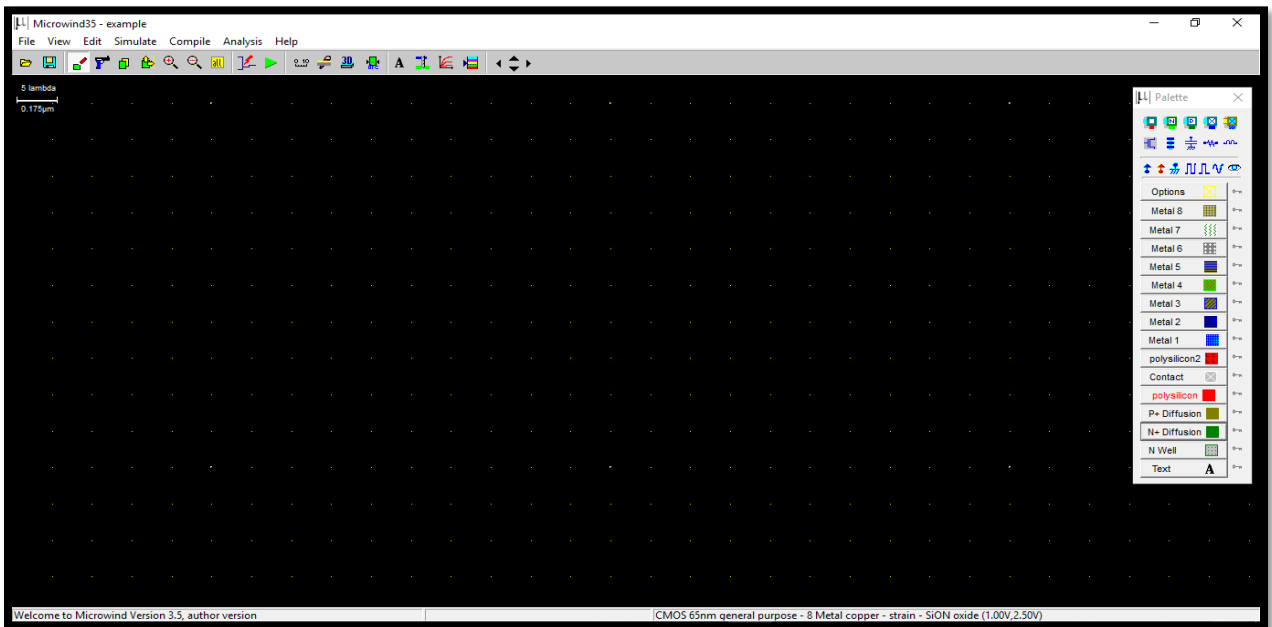

Figure 2: microwind35_tool
- To open the Microwind program, open “**microwind35 full**” folder. Then, open “**system**” folder. After that you will see the program with name “**Microwind35**” folder. After that, you will see the program with name “**Microwind35**” and its icon  **Microwind35**. Click on it to open the program and the screen will be as the Figure2 below.